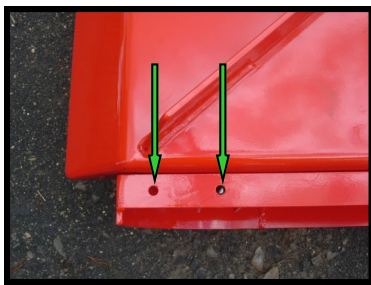
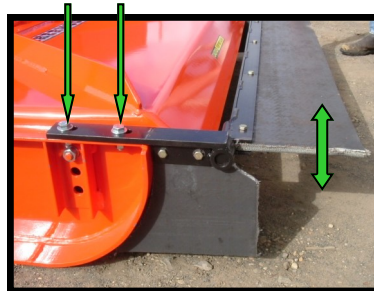

FIG 1
FIG 2
STEP 1: If your Sherwood slasher already has two holes drilled into each end of the skids (see fig. 1), simply bolt one bracket with side flap attached to one end of the skid using the 4 x 1/2 inch x 1 1/2 inch nuts and bolts supplied, (see fig. 2). Ensure both bolts are tight.
STEP 2: Locate the long bar with rubber flap attached into locating hole on the bracket already bolted to the skid. Slide the other bracket onto the long bar and bolt this bracket to the other skid. The long flap should pivot freely (see figs. 2&3&5) Tighten all bolts.
STEP 4: If your Sherwood slasher does not have predrilled holes in the skids, position both brackets onto the skids with the long bar inserted into the locating holes of both brackets. Ensure there is enough clearance between the body of the slasher and the guarding to allow the pivot freely (see fig 2). Use the brackets as templates, mark and drill 1/2inch clearance holes x 4 (see fig 1&4).